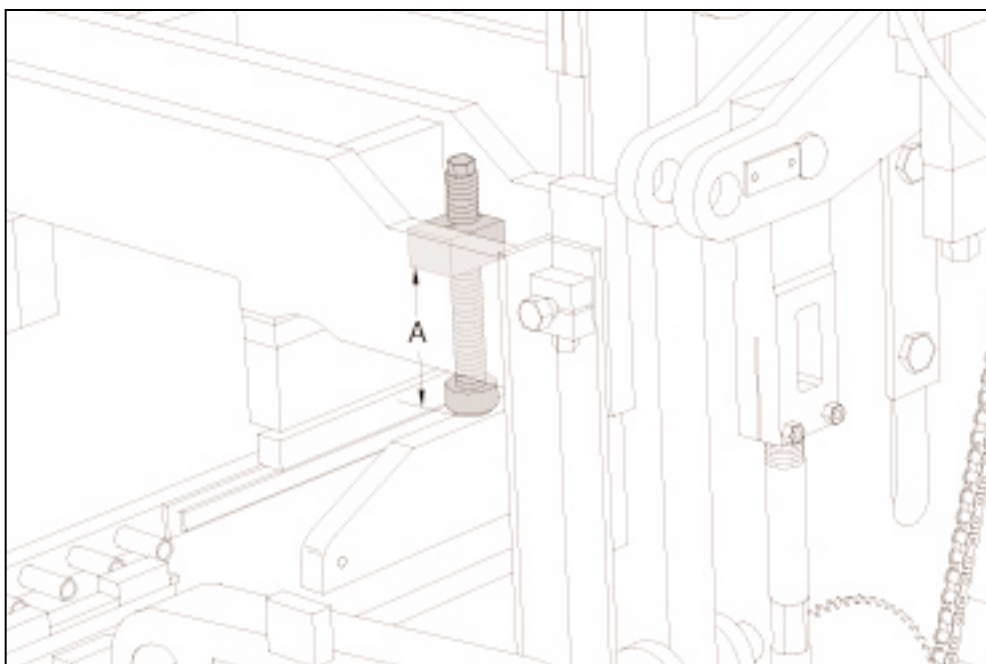

Figure 4.14 SHOCK ABSORBERS ADJUSTMENT.
4.1.7 Adjust the shock absorbers to a dimension **11 15/16"** **[303mm]** (represented by "A" in figure 4.14) from the bottom of the clamp blocks to the bottom of the rubber pads.